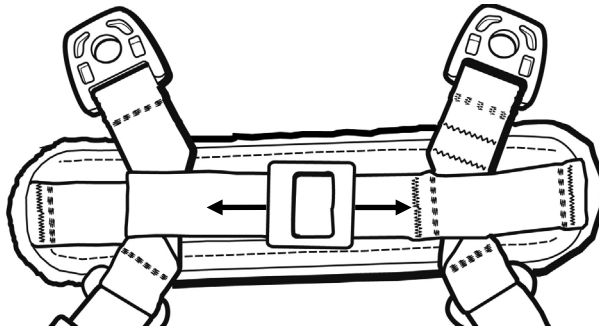

Figure 9. Tighten/Adjust Nape Pad (Improve H-Nape Retention Systems).
- b. For helmets with an improved H-nape retention system, slide the buckle on the nape pad from side to side (Figure 9).